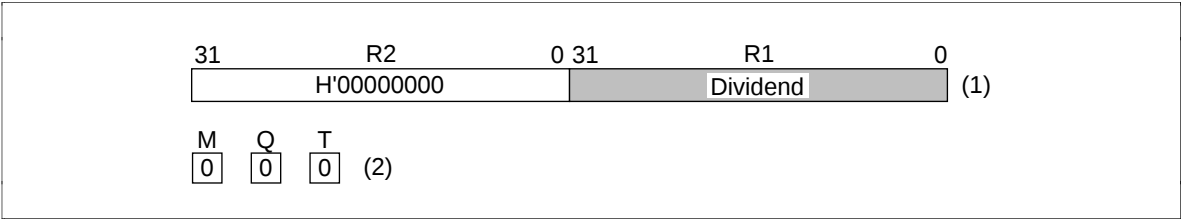

Figure 3.48 Initial Setting (DIVU32R)
- Takes R2’s upper 32 bits and zero-extends the dividend to 64 bits (figure 3.48 (1)).
- Sets the M, Q, and T bits used in one-step division to unsigned division values. (figure 3.48 (2)).